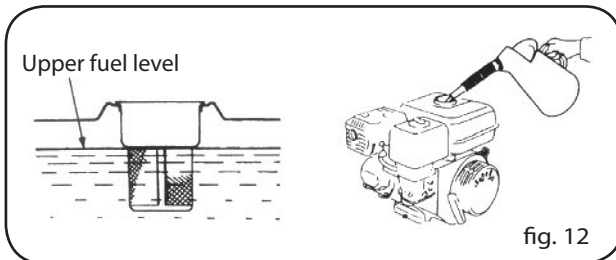

fig. 12
Fuel tank capacity: 3.6 liters (Fig. 12).
- If the fuel level is too low, refuel the tank. Remember adding fuel not over the fuel filter shoulder (Fig. 12).